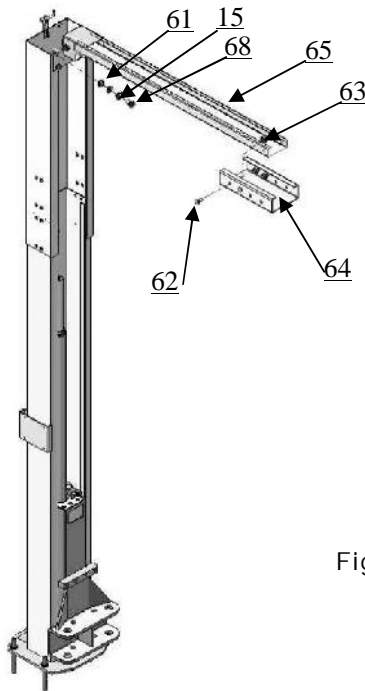

Fig. 16
1. With help of the hook of top beam, put one side of top beam on top of the extension column and connecting the top beam to extension column by bolts, tighten the bolts. Then assemble the connecting bracket (See Fig. 16).